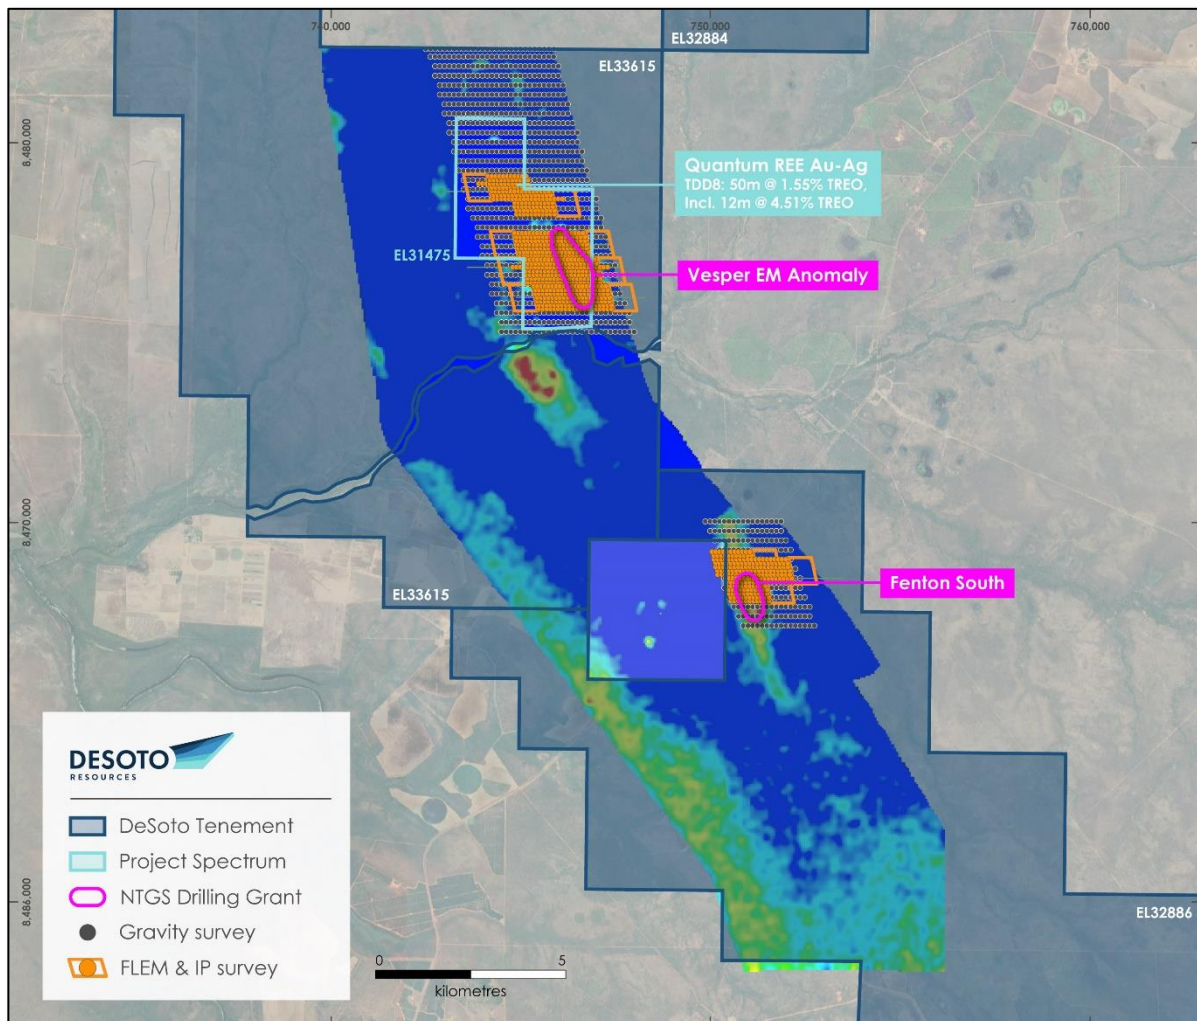

Figure 1 – Fenton South and Spectrum Project locations.
- Atlas Geophysics completed high resolution 500m x 125m spaced ground gravity surveys over Spectrum and Fenton South Projects (Figure 1).
- Zonge has completed three loops of the ground FLEM survey at Fenton South (Figure 1).